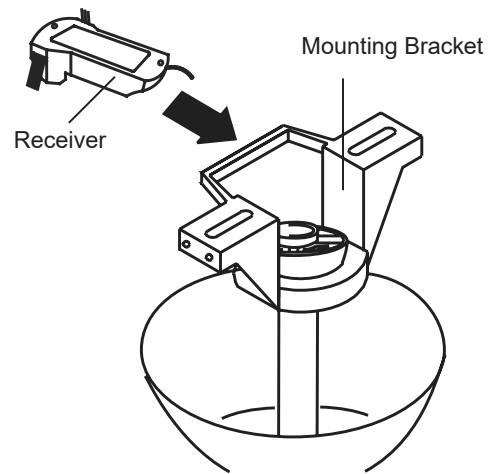

Fig. 10
**Step 1.** Insert the receiver into the mounting bracket with the flat side of the receiver facing the ceiling. **(Fig. 10)** For best performance, make sure the black antenna wire (on the end of the receiver) remains extended, and does not become tangled with the electrical wires.